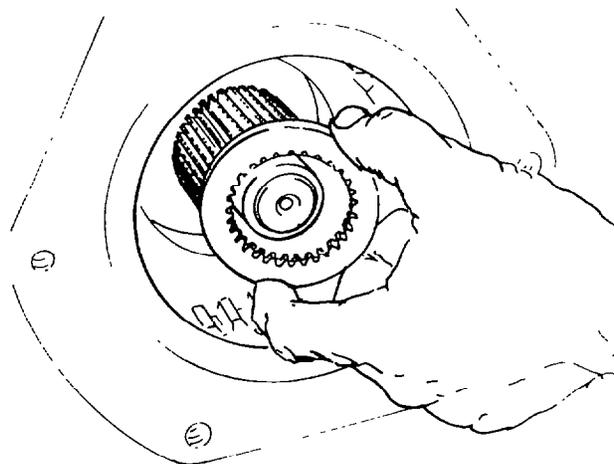

Fig. 208 — Installing Fourth Gear Selective Thrust Washer
- w. Install the fourth gear selective thrust washer and snap ring onto the mainshaft (see fig. 208).